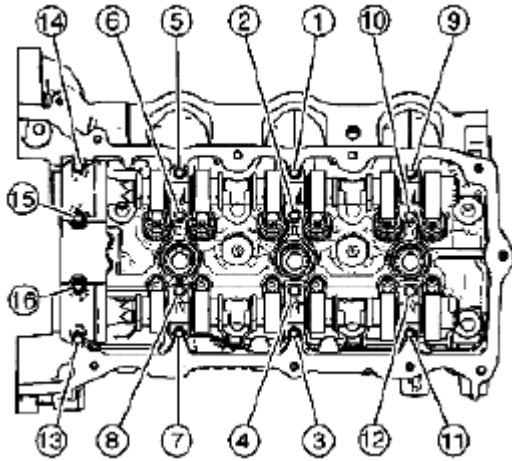

Fig. 772: Tightening Camshaft Bearing Cap Bolts
12. Tighten the camshaft bearing cap bolts in the sequence shown in **Fig. 772**.